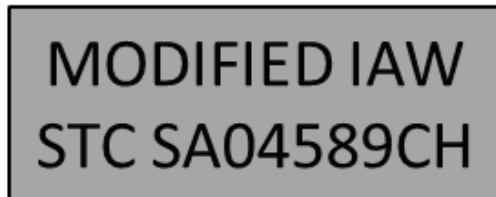

Figure 4: Required CSU & OSG placard (Hartzell P/N 109331)
- (18) Reinstall engine access panels removed in Step (7), and perform Steps (1) through (3) again.
- (19) Advance the power lever until propeller RPM stabilizes. Make a note of the RPM. Return the power lever to idle.
- (20) If required, adjust the propeller RPM by loosening the jam nut, and turning the max NP stop screw until 2,000 ± 10 RPM is achieved. A ½ turn on the max speed fine adjustment bolt results in approximately 10 RPM change. Turn the bolt clockwise to decrease RPM or counterclockwise to increase RPM.
- (21) Once the propeller RPM is within 2,000 ± 10 RPM, torque the jam nut to 33-38 IN-LB, and re-safety the max NP stop screw according to the Airplane Maintenance Manual. Additional engine controls rigging procedures may be found in Chapter 76 of the Airplane Maintenance Manual.
- (22) Ensure jam nuts and loosened retaining screws have been torqued to 33-38 IN-LB. Re-safety the skirt retaining screw, max NP stop screw, and feather stop screw according to the Kodiak 100 Airplane Maintenance Manual.
- (23) Clean the area highlighted as Region 1 (red oval area, see Figure 1), and firmly apply the provided placard (Figure 4).
- (7) Turn the maximum speed adjustment screw counterclockwise one turn.
- (8) Reinstall engine access panels removed in Step (5), and perform Steps (1) through (4) again.
- (9) If required, adjust the maximum speed adjustment screw until the Propeller Overspeed Governor Check results in a stabilized propeller RPM of  $1,880 \pm 50$  RPM. Turn the screw clockwise to increase the overspeed RPM, or counterclockwise to reduce the overspeed RPM.
- (10) Clean the area highlighted as Region 2 (red oval area, see Figure 6), and firmly apply the provided placard (Figure 4).